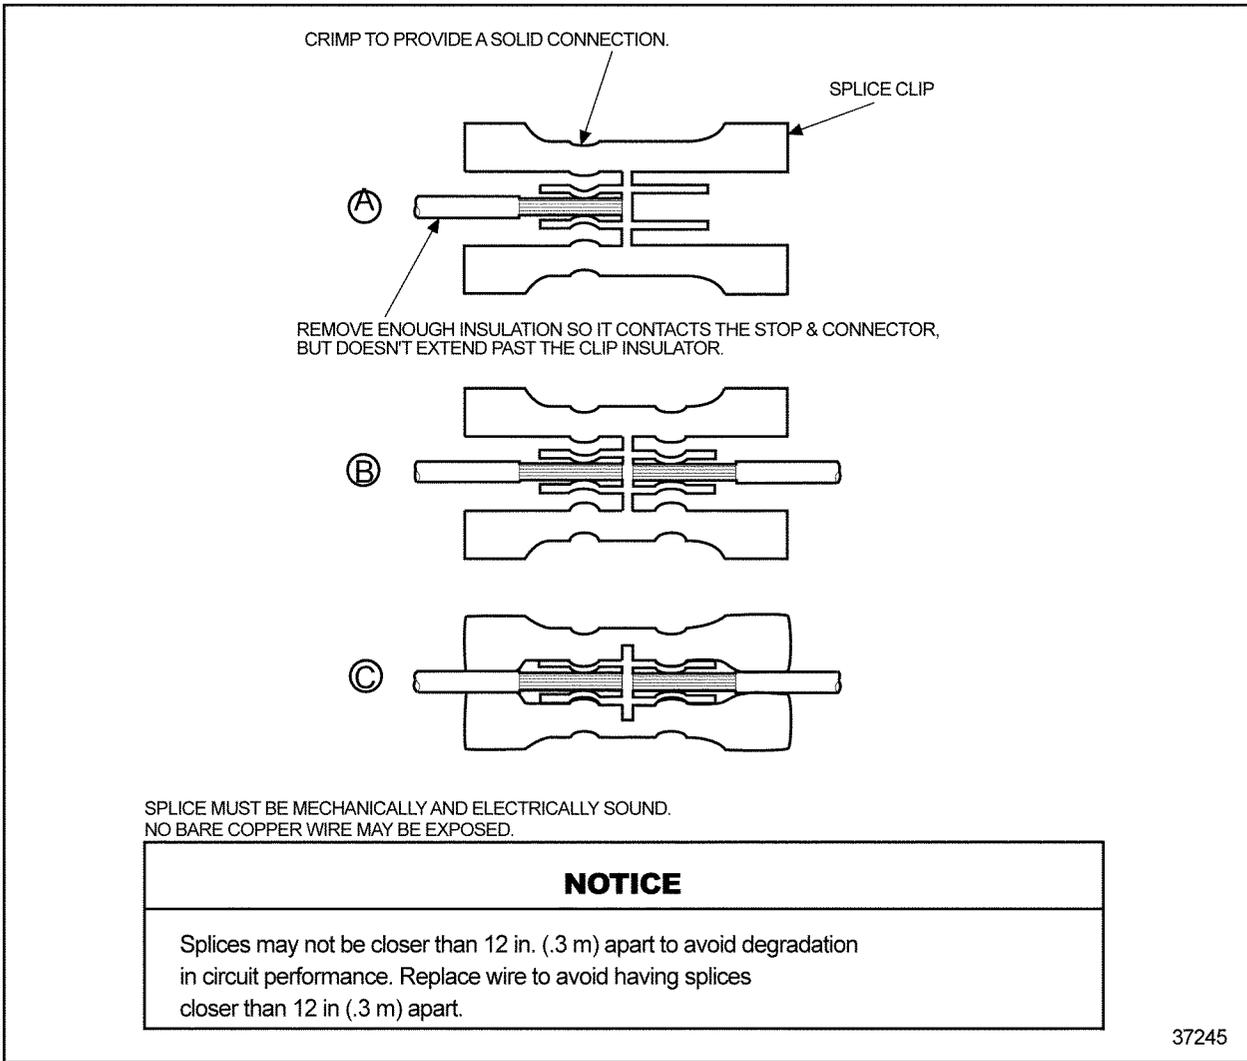

Figure 3-22 Splicing Straight Leads - Alternate Method 1
3. Insert one wire into the splice clip until it butts against the clip. Stop and crimp (see Figure 3-22, A).
4. Insert the other wire into the splice clip until it butts against the clip stop (see Figure 3-22, B).
7. Shrink the splice clip insulative casing with a heat gun to seal the splice (see Figure 3-22, C).